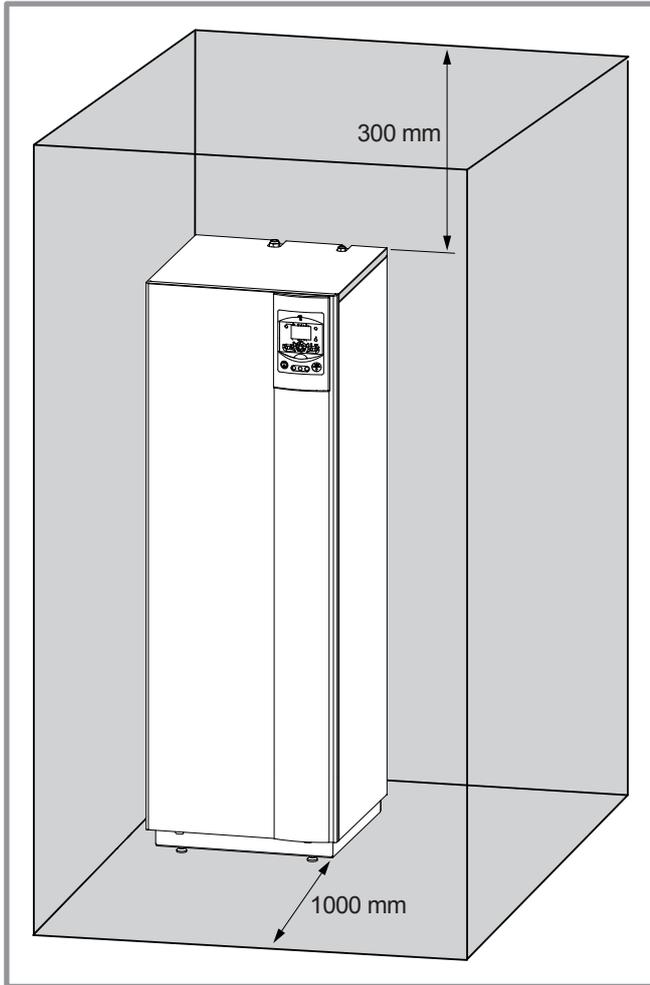

figure 13 - Minimum installation clearances around the hydraulic module and distances to the combustible partitions
- To facilitate maintenance and to allow access to the various components, we recommend that you provide sufficient space all around the hydraulic unit (figure 13).